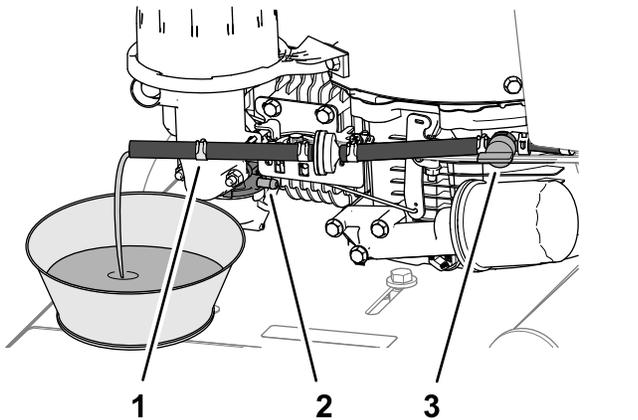

Figure 36
4. At the carburetor, squeeze the ends of the hose clamp together and move it away from the fuel fitting (Figure 36).